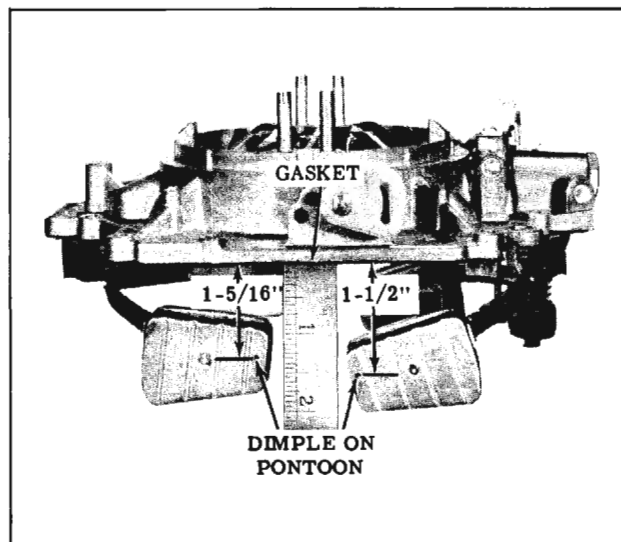

Fig. 9-22 Checking Primary and Secondary Float Drop
1. Position the air horn as shown in Fig. 9-22. Do not hold the power piston for this adjustment.